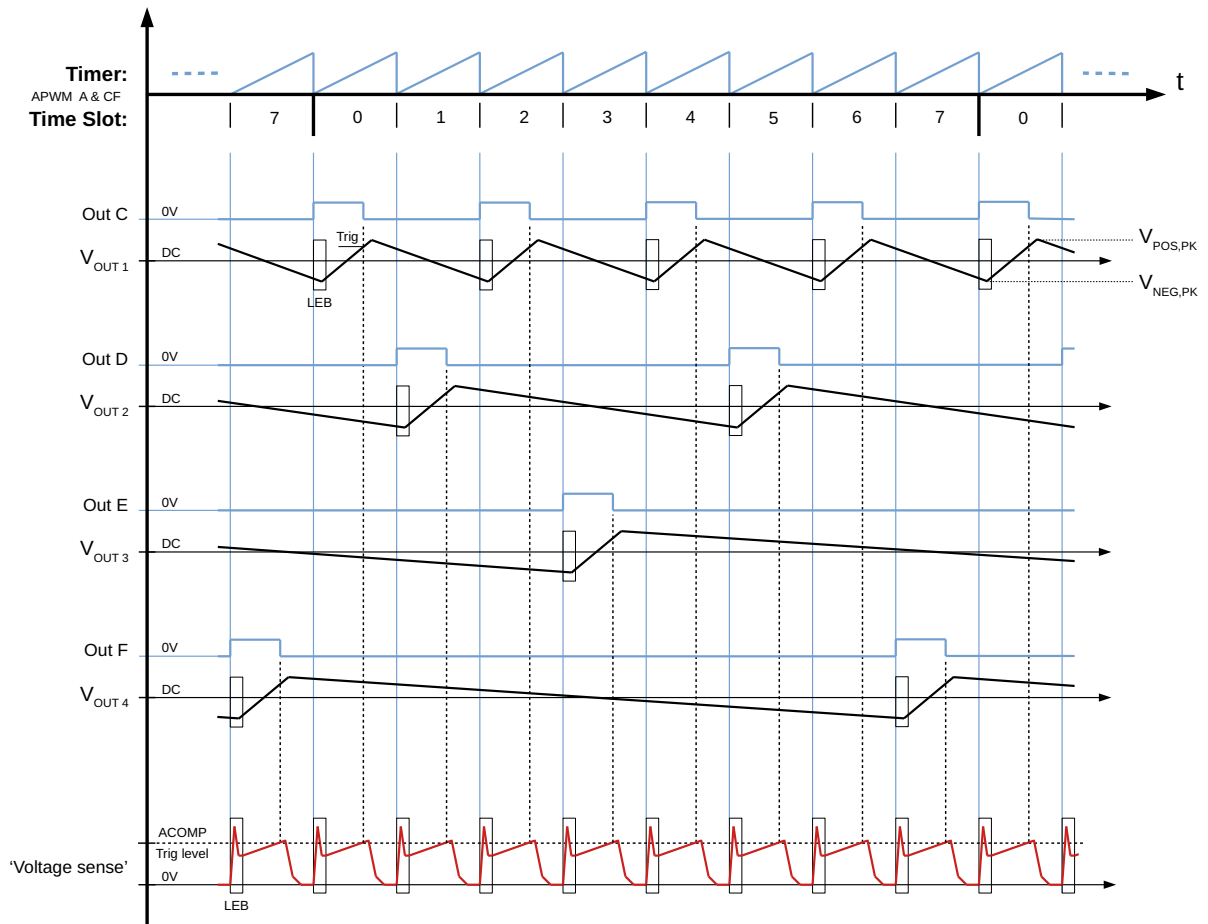

Figure 120. Timing diagram of a multi-converter controller for four output voltages.
Time slot configuration is set to 8 slots in the APWM\_A Timer and the APWM\_CF Timer, i.e., slot 0 to 7 exist. It is critical that both these Timers are configured identically, including their input Tick control from the same Main Timer, see figure 107. In this example, one output voltage uses every second slot, one uses two slots, and the last two outputs use one slot each, see figure 120. For configuration of APWM\_CF, see section 53.4.
In the first time slot in figure 120, Out C turns on and connects its feedback signal to the ACOMP input, see the red signal paths in figure 119. The output voltage,  $V_{OUT}$ , for this converter starts to increase. When it reaches the ACOMP trigger level, the APWM\_A State signal goes low, which is configured to end the duty cycle in APWM\_CF. Thus, Out C goes low and turns off its power switch. After this slot ends, Out D turns on and connects its feedback signal to the ACOMP input. This output voltage starts to increase, and when it reaches the ACOMP trigger level the APWM\_A ends the duty cycle so Out D goes low and turns off its power switch. In each of the 8 time slots, the ACOMP controls the duty cycle in the active APWM\_CF block in the same way. When the last time slot (7) has been executed, the sequence restarts immediately in the first time slot (0) again.
The output current capability for each output voltage will be according to the single-converter case above, but linearly decreased to be proportional to the number of time slots used for each output. So if all 8 slots would be used for one output, the capability is equal to the single-converter case, but the multiple APWM\_CF concept would obviously be pointless. If half of the slots are used for one output, like for  $V_{OUT1}$  in figure 120, the current capability becomes 1/2. If 1/8 of the slots is used, like for  $V_{OUT3}$  and  $V_{OUT4}$ , the current capability becomes 1/8. Regarding the converter internal power dissipations, the average dissipations from cooling point of view will be reduced by the same slot factors. However, the pulse/peak stresses in the components will stay the same as in the single-output case.